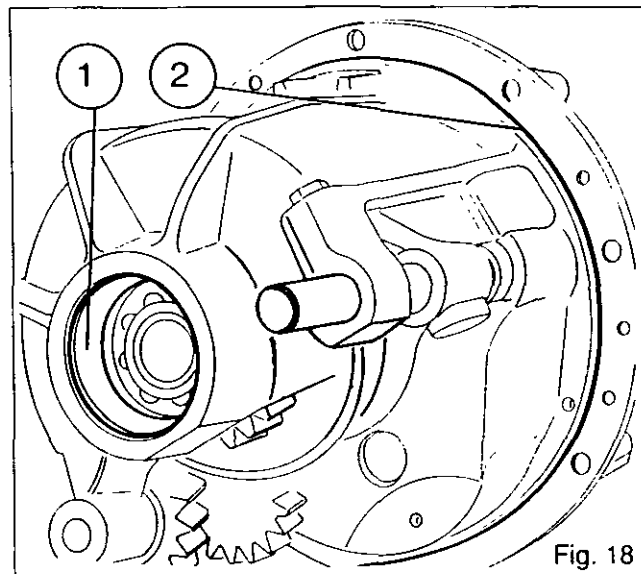

Fig. 18
72. On the reversing mechanism, check that cup (1) and O-ring (2) are in position (Fig. 18).